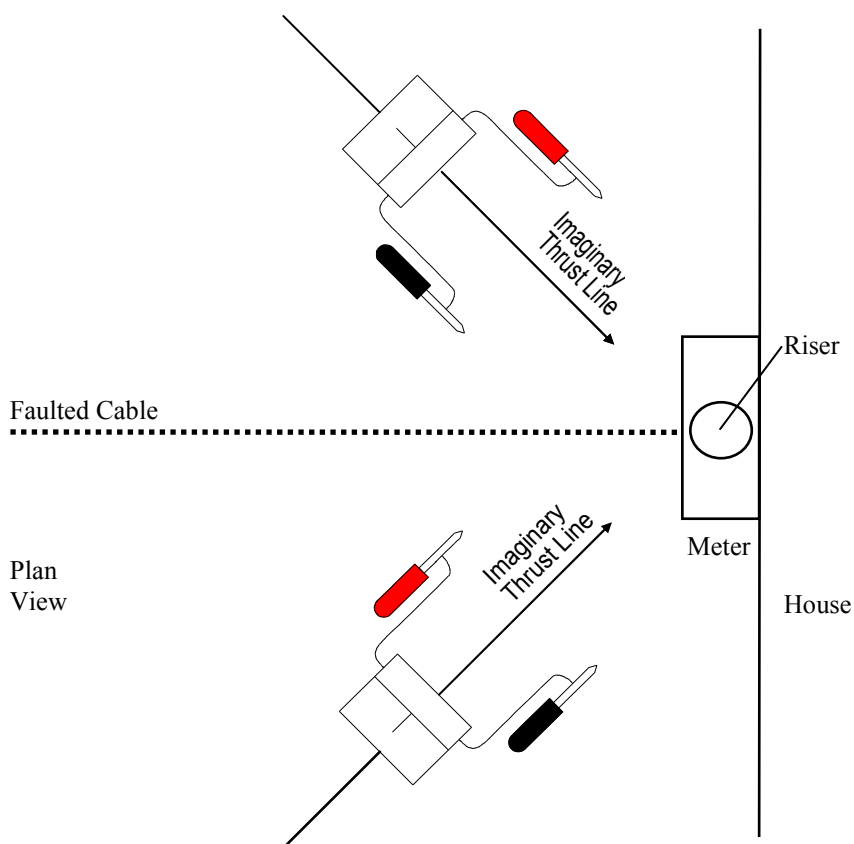

Figure 10
3. Refer to Figure 10, below. Turn probes at an angle to the house and check for a null reading along an imaginary line of thrust as shown. Be sure to take two readings. A null reading across a line pointed at the riser will indicate a fault at the base of or in the riser.